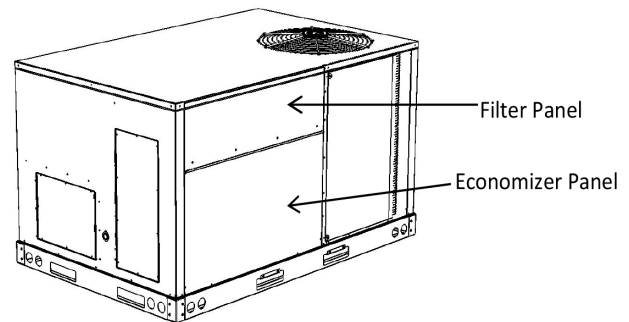

FIGURE 1 - REMOVE PANELS
2. Take Filter Access Panel off of unit. This panel can be discarded. (see Figure 1).
3. Remove economizer panel from return air section of unit (see Figure 1). This panel can be discarded. Keep removed screws for use in later step.